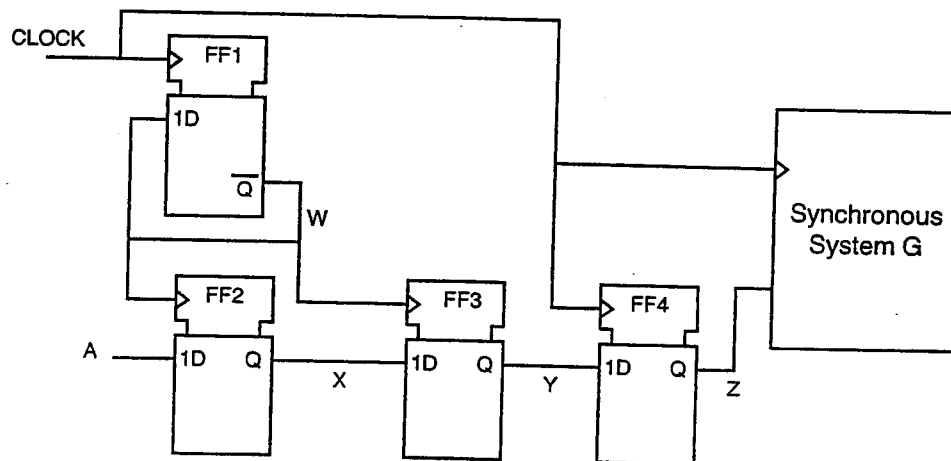

Figure 3.1
- b) Figure 3.1 shows a circuit to synchronise an asynchronous input A to a synchronous system G. The synchronous system G can operate with a maximum clock frequency of 100 MHz and the input setup time is 2 ns. The flip-flops FF1 to FF4 have a setup time of 3 ns and clock-to-output delay of 5 ns. Ignoring the possibility of metastability, what is the maximum clock frequency of this circuit?